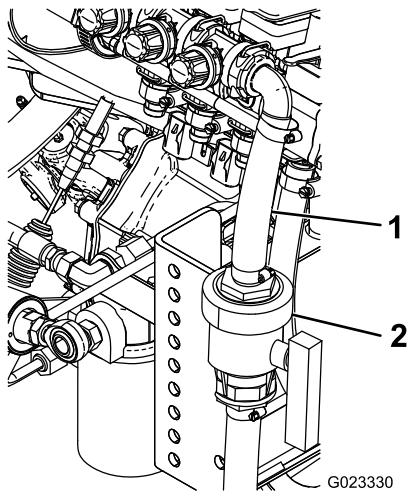

Figure 13
9. Connect the 2 hose ends to the supply hose valve using 2 hose clamps (Figure 13).